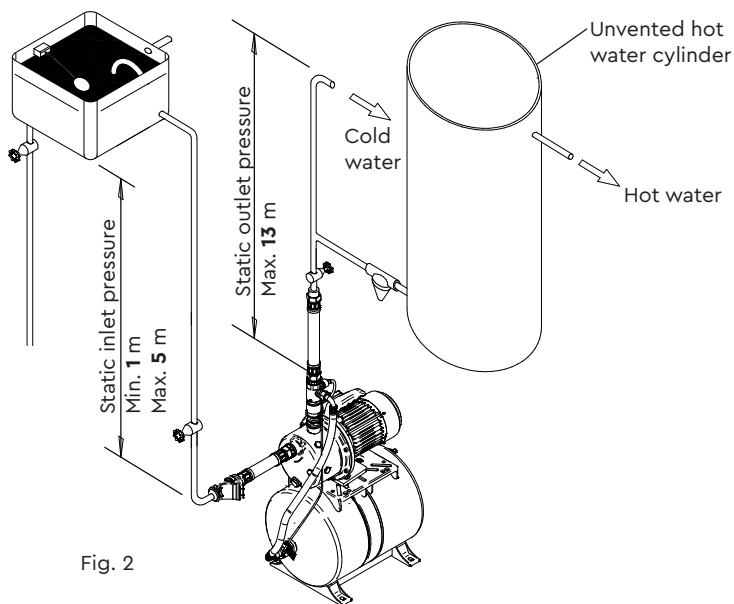

Fig. 2
- 2.16 **Static inlet pressure:** Before deciding where to locate the unit check to ensure the static inlet head between pump and the bottom of the cold water tank (Fig. 2) is at least 1 metre and does not exceed the max inlet head of 5 metres.
- 2.19 **Static outlet pressure:** The static outlet head (Fig. 2) must also be within the maximum requirement of 13 metres.